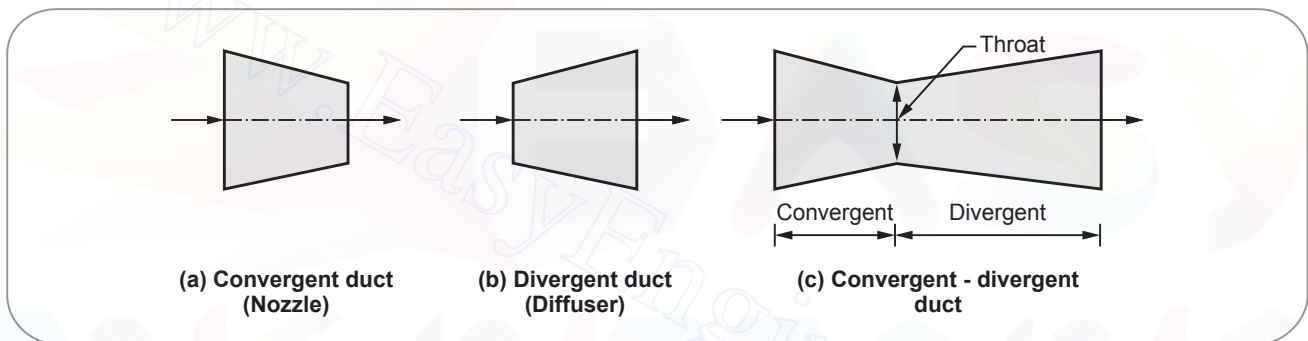

Fig. 1.1
- If the cross-section of a duct decreases continuously from inlet to outlet, it is said to be *convergent* and if it increases from inlet to outlet, it is said to be *divergent*. Refer Fig. 1.1 (a) and (b).
- If the cross-section decreases initially and then increases, the duct is known as *convergent - divergent*. Also the portion of minimum cross-section is known as *throat*. Refer Fig. 1.1 (c).